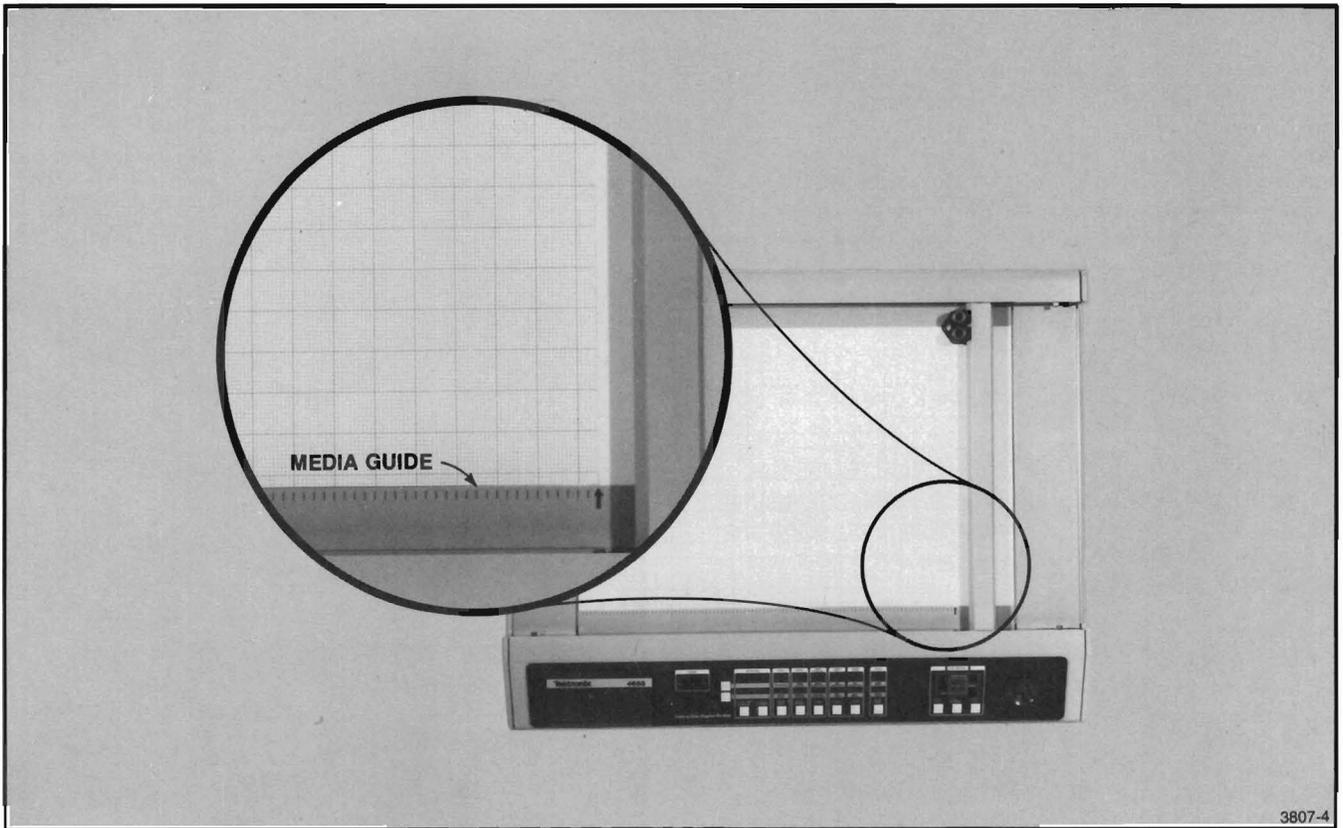

Figure 4-2. Positioning Media on the 4663 Platen.
3. **Place** the new media on the platen, aligning it with the arrow in the lower-right corner of the paper guide. The bottom edge of the media should be aligned evenly along the paper guide (see Figure 4-2).